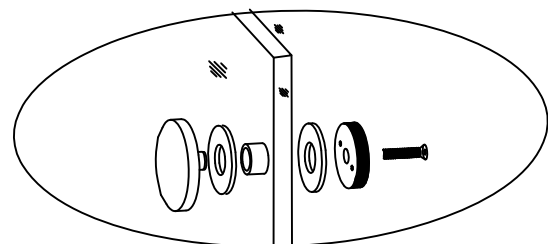

Fig. 11
- Next assemble the stainless steel fitting and glass connector parts to top hole in Return Glass Panel (23), following the assembly sequence shown in Fig.11. The stainless steel fitting should be positioned to the inside of Return Glass Panel (23) when complete.